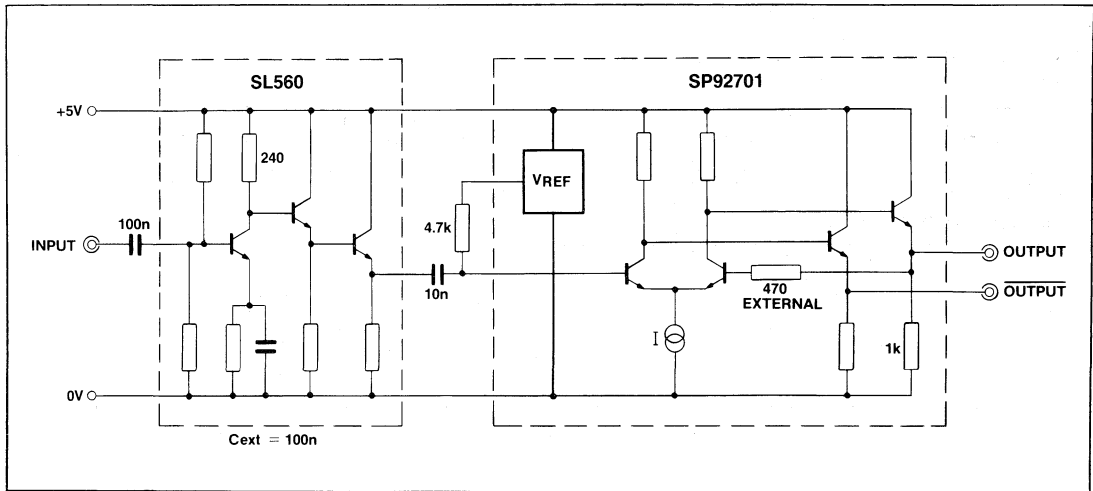

Fig.4 Low noise amp and driver
**ANALOG APPLICATION (Fig.4)**